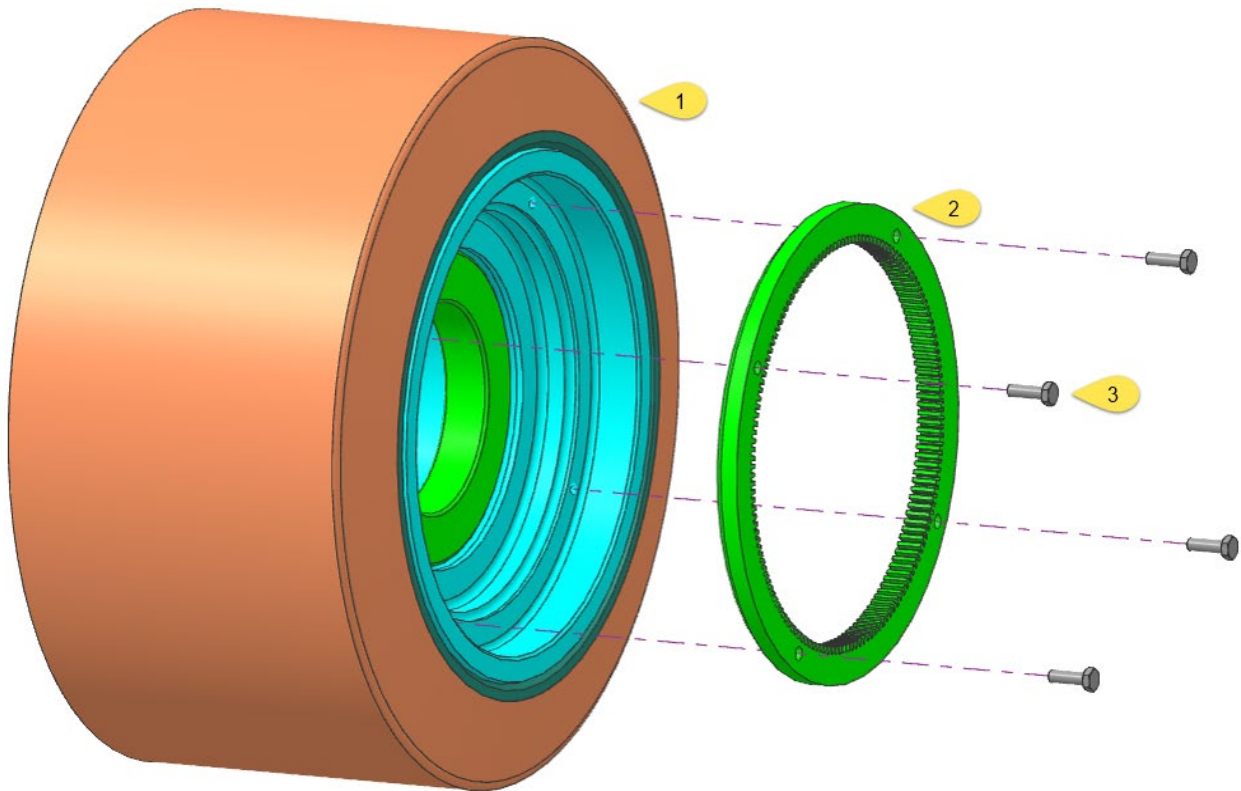

Figure 5 -Tone wheel assembly
- Attach the tone wheel to the new load wheel assembly as shown in Figure 5
3.5.1.1 Part Numbers & Torque Settings [Figure 5]